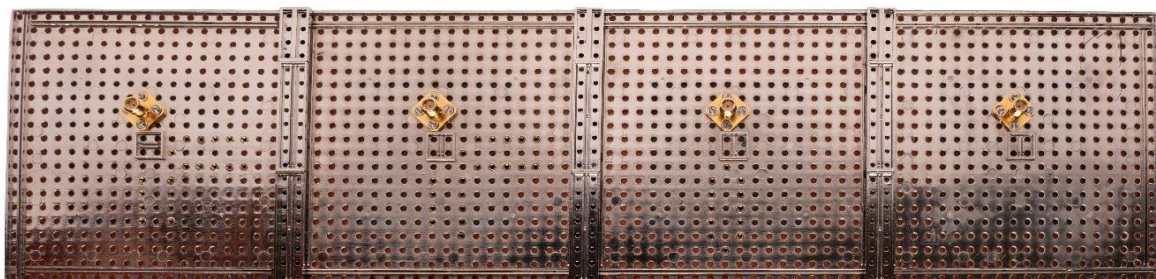

Figure 10 Connection of the ground planes with the 2X8 and 2X4 metal cells
need to design the patch antenna element again in this experiment. You need to focus on the array design. PCB type feed cells division includes the PCB type metal cells for each antenna. Metal cells for ground plane are to connect the ground planes of the antennas to each other as in Figure 10.
13. Mount the 2X8 and 2X4 metal cells (Metal cells in the ground plane division of the experiment box) in order to connect the ground planes as in Figure 10.